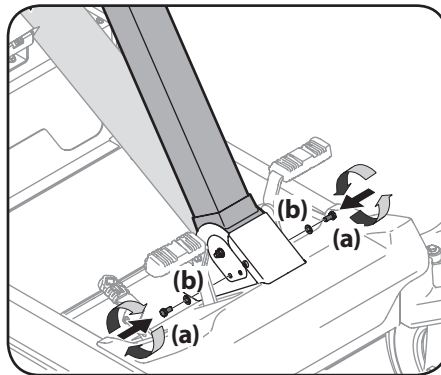

Figure 2-2
1. Place the steering column in one of the two positions and secure in place with the hex screws (a) and flat washers (b) packed separately. See Figure 2-2.